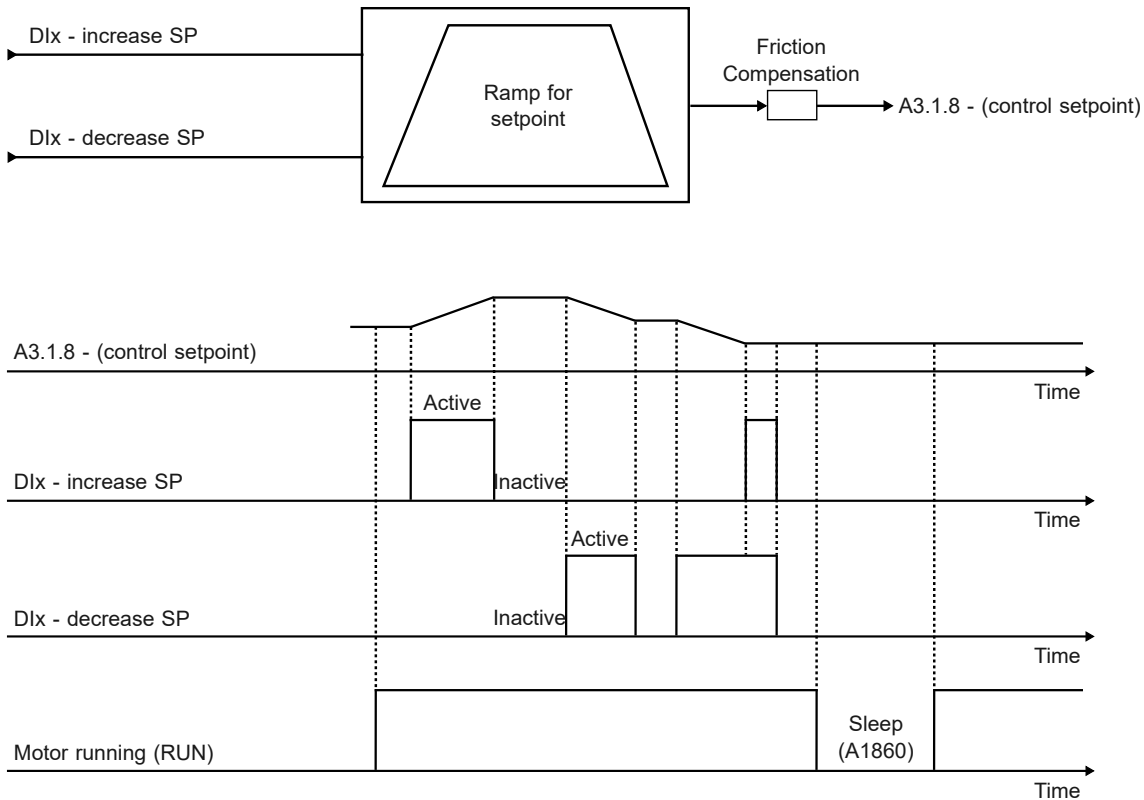

Figure 4.4: Operational graphic of the electronic potentiometer function (EP)
The Figure 4.4 on page 4-16 presents the operation of the electronic potentiometer (EP) function. As the digital input DIx, defined in parameter A3.3.1.6, is activated, the value of the control setpoint (A3.1.8) is increased after friction compensation (if active) and as the digital input DIx defined in parameter A3.3.1.7 is activated, the control setpoint value (A3.1.8) is decreased after friction compensation (if active). If the two digital inputs are activated at the same time, the value remains the same.